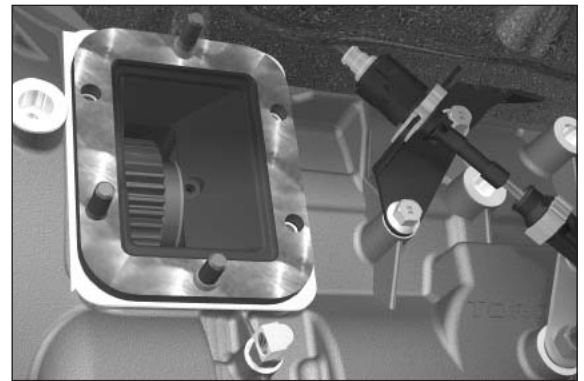

Figure 51
9. Install the geared adapter into the transmission aperture and over the studs (**Fig. 51**).